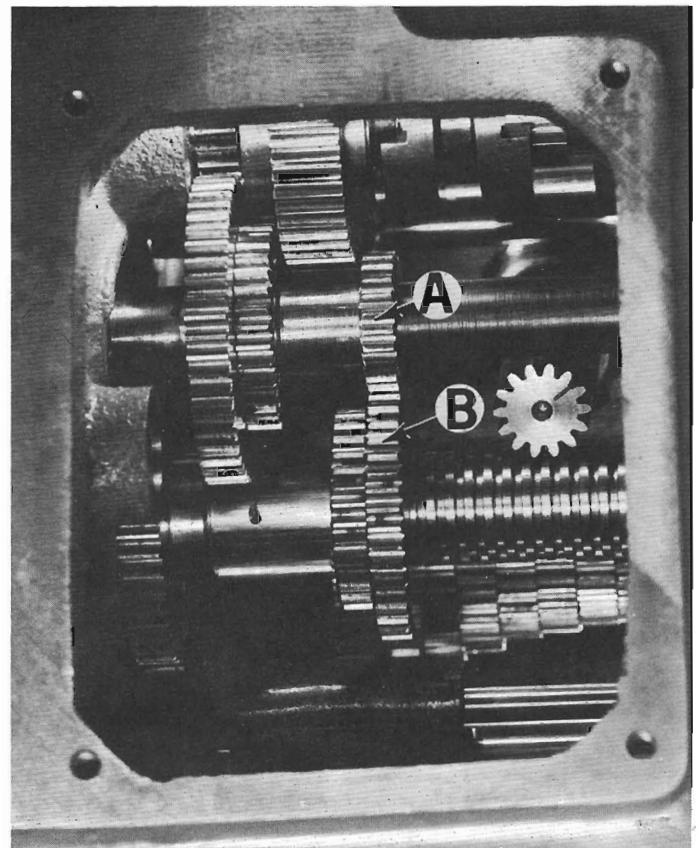

Figure 45 — Gear Position When "Three Change" Handle Is In No. 3 Position
14. For proper operation gears "A" and "B", Figure 45, must be in mesh when "Three Change" handle is in No. 3 position. If this is not the case, loosen set screw "A", Figure 37, position gears "A" and "B", Figure 45, as shown. With plunger "F", Figure 37, in notched position hold against pinion and knob and tighten set screw "A", Figure 37.